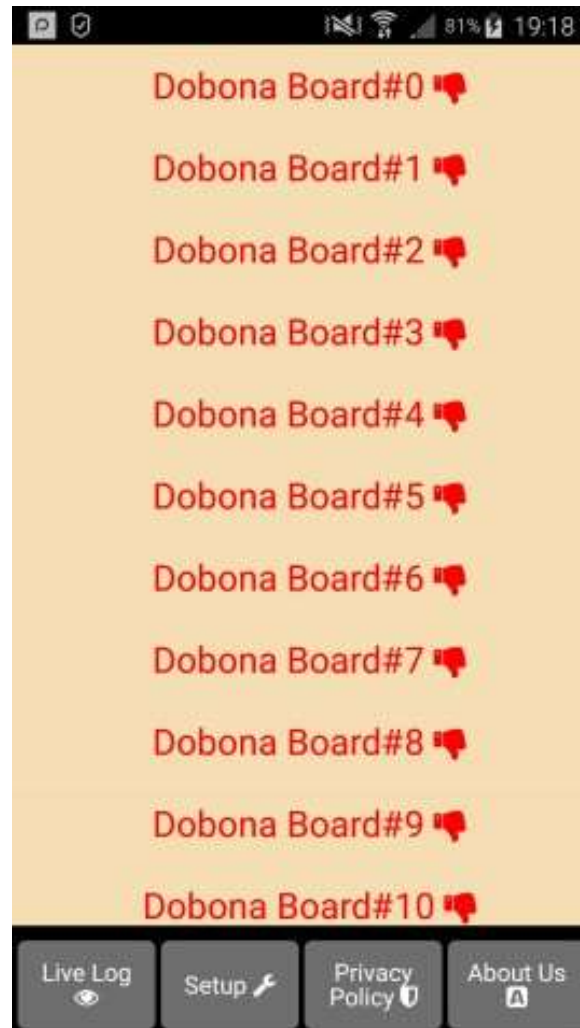

Fig 2.
5. SINCE NO BOARD HAS BEEN SETUP YET, THE USER SHOULD PRESS ON THE SETUP BUTTON ON THE BOTTOM OF THE SCREEN TO MOVE TO THE SETUP PAGE, WHICH LOOKS SIMILAR THE LIVE\_LOG PAGE BUT WITH A BEIGE BACKGROUND (Fig.2).